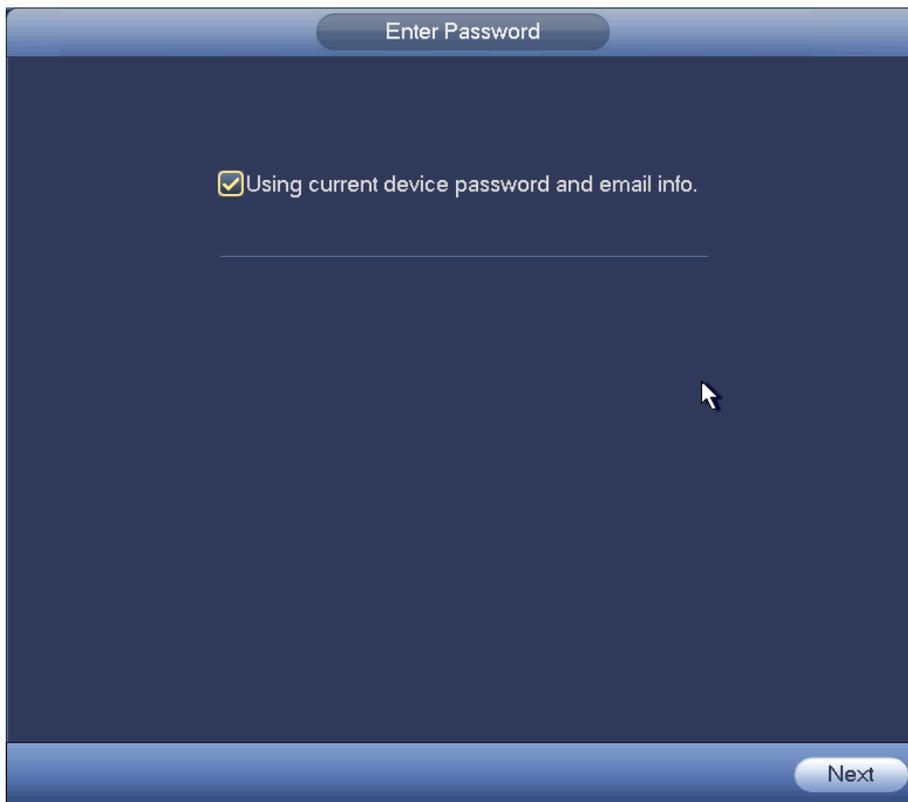

Figure 4-22
- Step 3 Select a camera to be initialized and then click Initialize button. Device displays password setup interface. See Figure 4-22 and Figure 4-23.